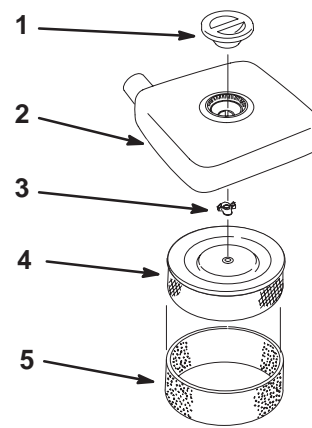

Figure 35
2. Clean around the air cleaner to prevent dirt from getting into the engine and causing damage. Unscrew the knob and remove the air cleaner cover (Fig. 35).
3. Carefully slide the foam element off the paper element (Fig. 35).
4. Unscrew the cover nut and remove the paper element (Fig. 35).
1. Carefully slide the foam element onto the paper air cleaner element (Fig. 35).
2. Place the air cleaner assembly onto the air cleaner base (Fig. 35).
3. Install the air cleaner and secure with cover nut (Fig. 35).